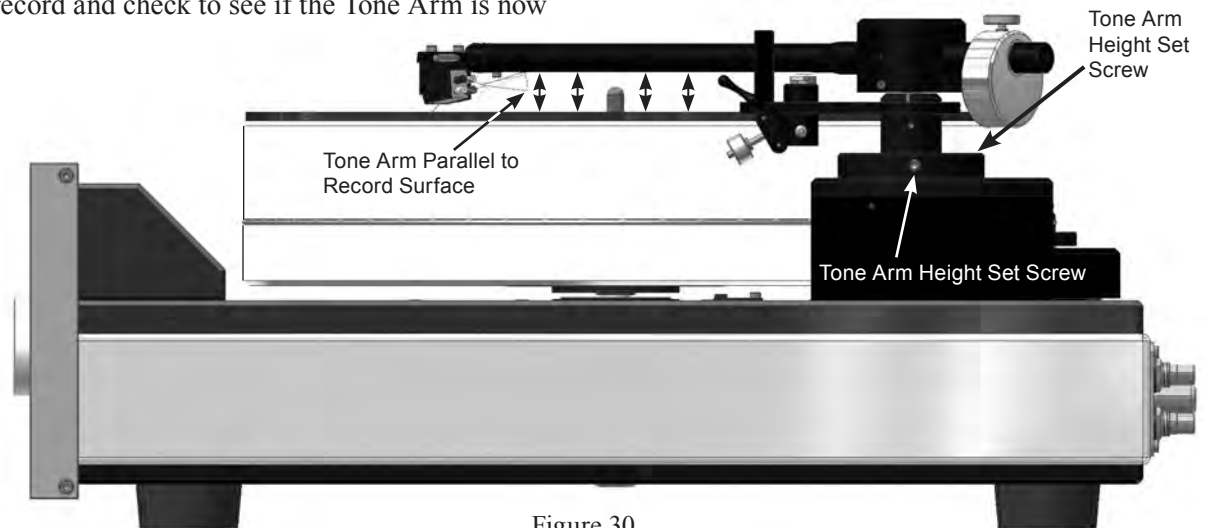

Figure 30
- With the Tone Arm secured in the Tone Arm Rest, carefully loosen the two set screws while supporting the rear of the Tone Arm. Reposition the Tone Arm based on findings in the previous step. Temporarily tighten one of the set screws. Refer to figure 30.